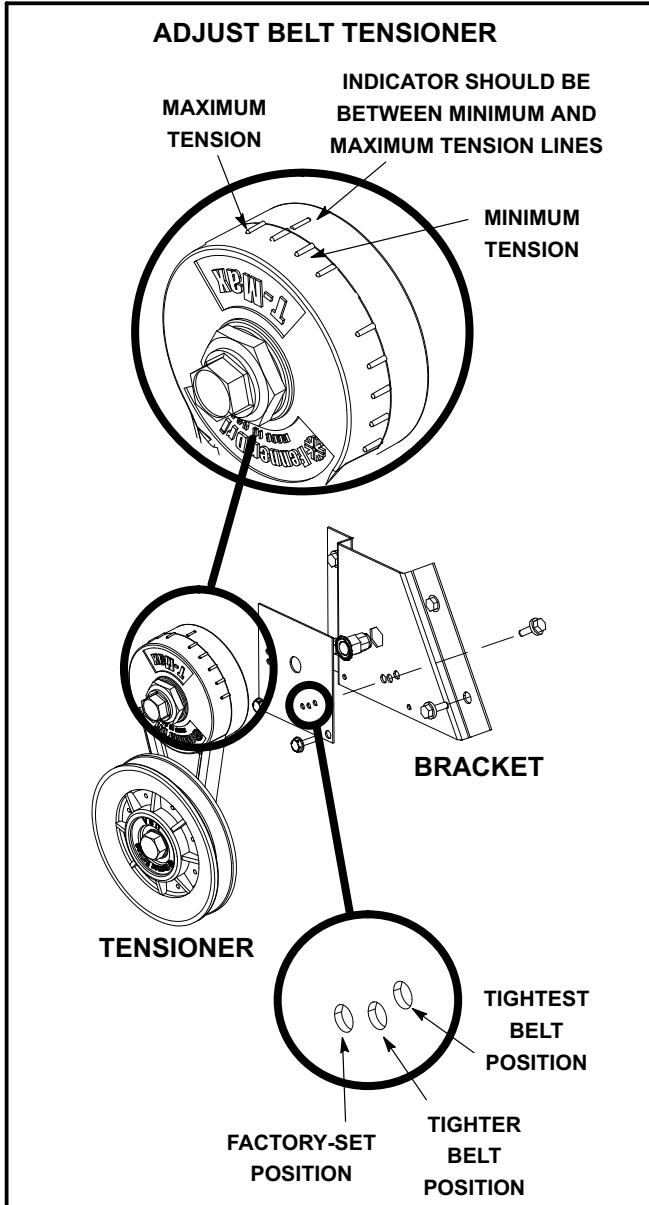

FIGURE 11
- 2- Remove bracket from blower housing. See figure 11.